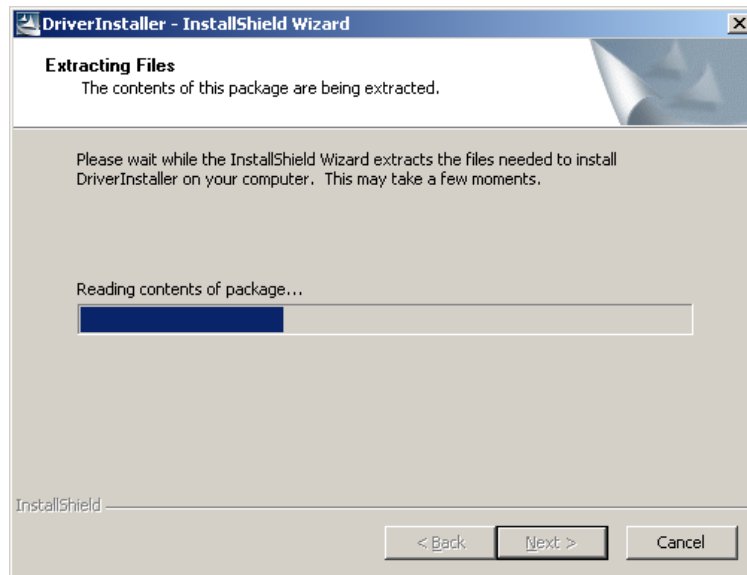

Figure 7-22: InstallShield Wizard Extracting Files
Step 9: Click **NEXT** to accept the default folder and begin extracting files (**Figure 7-22**).